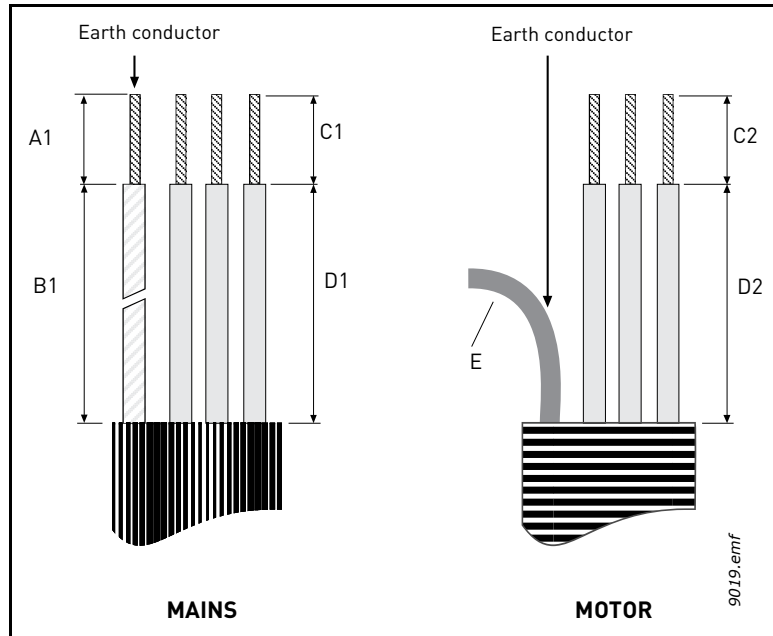
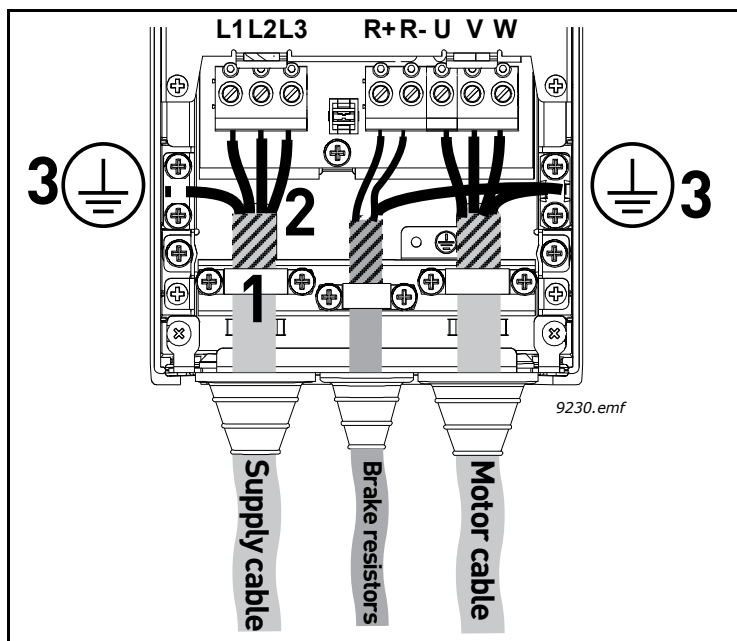

Figure 22. Stripping of cables
Figure 29. Cable connection
7	<p>Connect the stripped cables (see Figure 22 and Table 17) as shown in Figure 29.</p> <ul style="list-style-type: none"> • Expose the shield of all three cables in order to make a 360-degree connection with the cable clamp (1). • Connect the (phase) conductors of the supply, brake and motor cables into their respective terminals (2). • Form the rest of the cable shield of all three cables into “pigtails” and make a grounding connection with a clamp as shown in Figure 29 (3). Make the pigtails just long enough to reach and be fixed to the terminal - not longer.